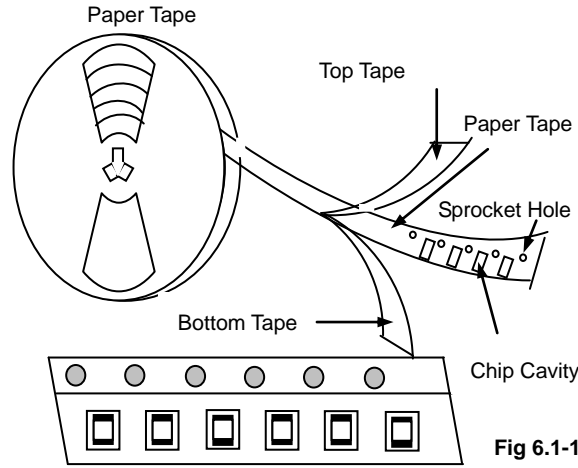

Fig 6.1-1
- a. Tape carrier packaging are specified in attached figure **Fig. 6.1-1~3**